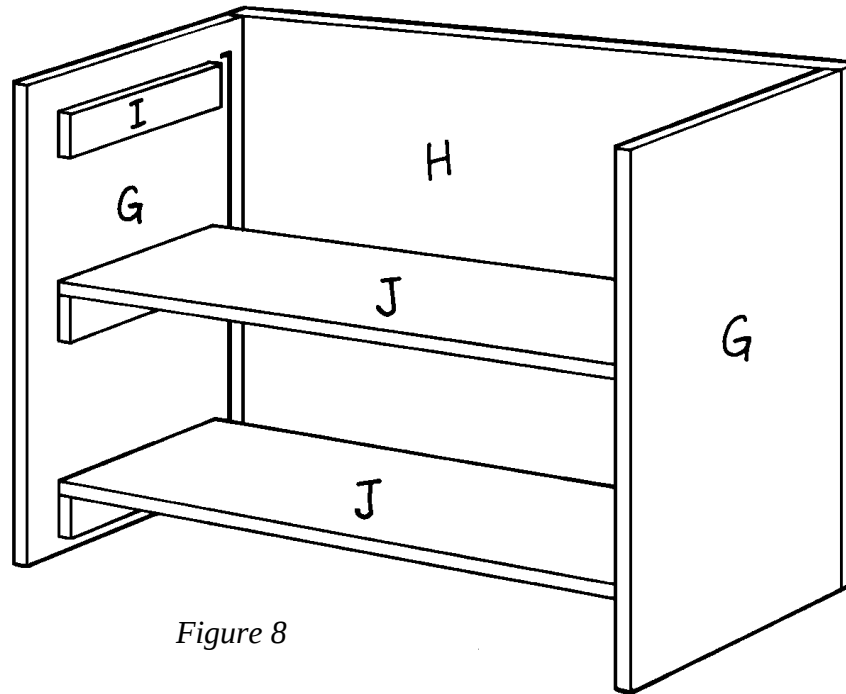

Figure 8
1. Cut two 36"-long shelves (J) from 1 x 12 pine.
2. Install one shelf (J) between the two sides (G) and over the middle inner supports (I), as shown in Figure 8, placing the shelf (J) 1-1/2" from the front edges of the sides (G). Glue the
3. Repeat Step 14 to attach a second shelf (J) over the lowest pair of inner supports (I), as shown in *Figure 8*.